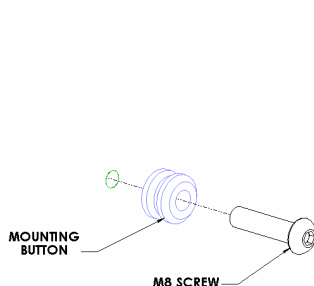
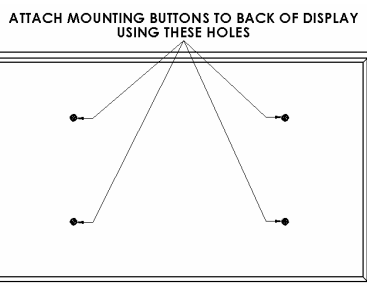

Figure 3
Figure 4
2. Place mounting buttons on mounting holes and attach using M8-1.25 x 35 mm BHCS (see Figure 3 & Figure 4).